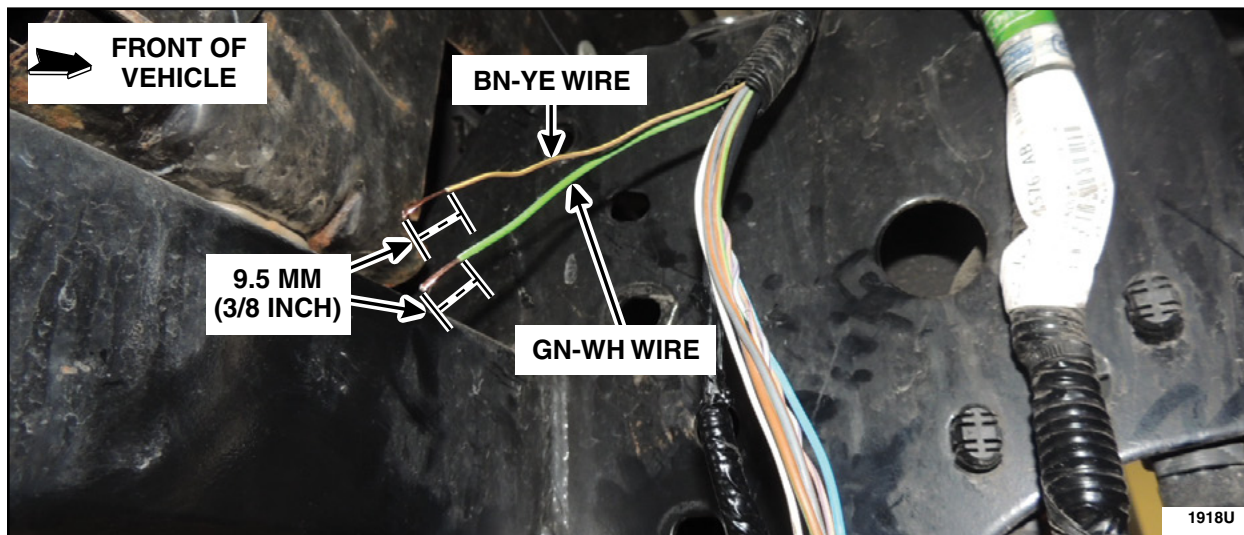

FIGURE 18
21. Strip 9.5 mm (3/8 in) of the GN-WH and BN-YE wire insulation on the male connector harness side. See Figure 18.